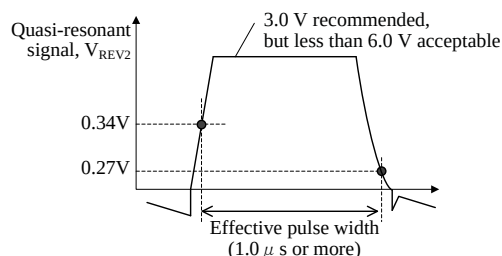

Figure 9-12 The effective pulse width of quasi-resonant signal
- The effective pulse width of quasi-resonant signal is $1.0 \mu s$ or more (refer to Figure 9-12)
power supply specification, $V_{REV2} < 6.0\text{ V}$ (Absolute maximum rating of the BD pin) and the effective pulse width of quasi-resonant signal is $1.0\text{ }\mu\text{s}$ or more (refer to Figure 9-12).